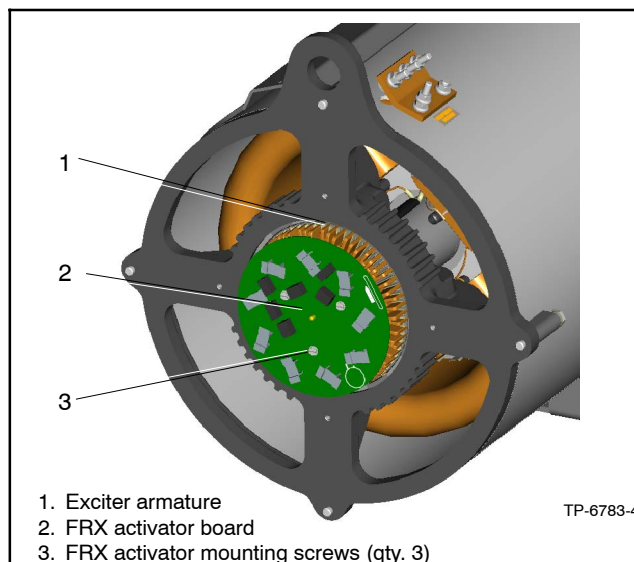

Figure 11-3 Removing FRX Activator Board
6. Remove the FRX activator board from the exciter armature assembly (three screws). See Figure 11-3.